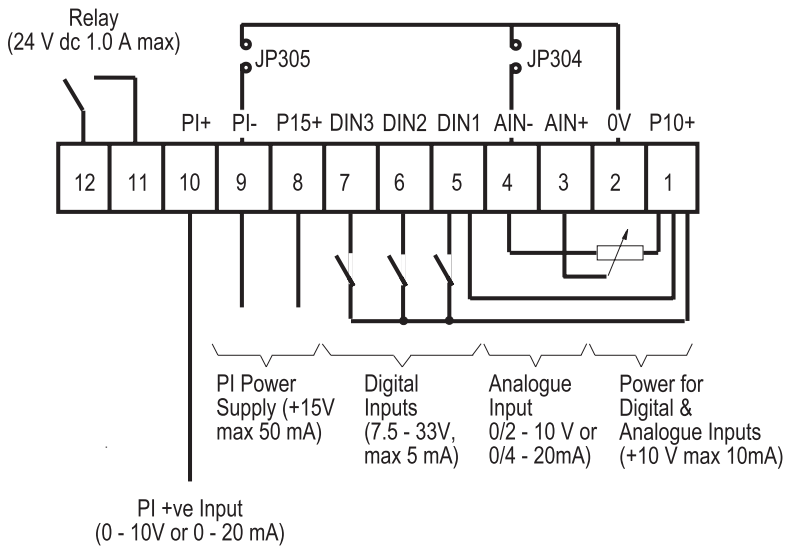

Fig. 3: Control Terminal Connections
Feed the control cable into the inverter via the appropriate gland hole (see Fig. 2). Connect the control wires in accordance with the information in Fig. 3 and 4 (also see Fig. 1).
Note that the optional potentiometer fitted as an analogue set point shown in Fig. 3 assumes that jumper JP304 is connecting 0V (pin 2) to AIN- (pin 4). Also, P15+ can be used as an alternative to P10+ for the digital inputs.
- (b) Connect a 4.7 kW potentiometer to the control terminals as shown in Fig. 3 or apply a 0 - 10 V signal between pin 2 (0V) and pin 3 (AIN+). In both cases, position jumper JP304 to connect 0V to AIN-.